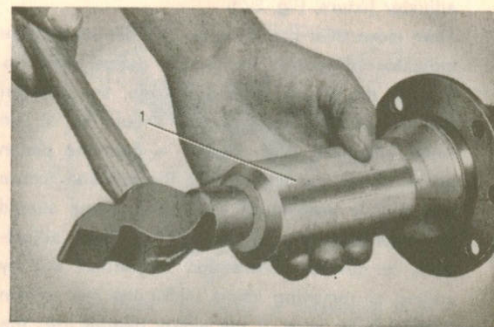

Fig. 5-30. Fitting the bearing race
3. Pack the bearings with heat-resistant grease. Fit the axle shaft in the rear axle housing. Drive in the bearing outer races with tool SVO 2205, see Fig. 5-30.